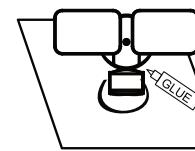

Fig. 6
07. After mounting the motion-activated light, apply a silicone sealant compound (not included) around the perimeter of the cover plate. This will seal where the back of the cover plate meets the mounting surface. Sealant will prevent water from seeping into the junction box (see fig. 6).